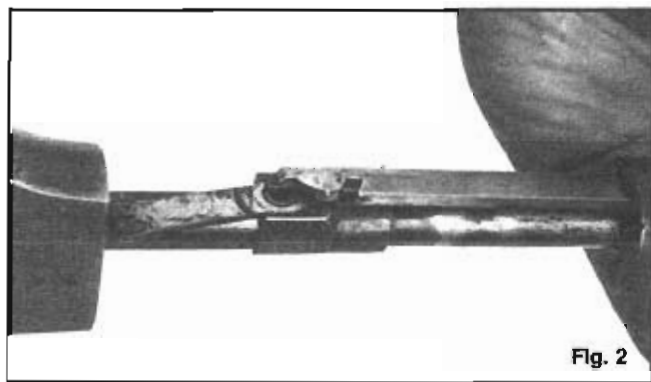

Fig. 2
With the trigger guard facing up, slowly move the forearm forward to close the breechblock. Note the position and function of the forearm's action bar (16), the action lock (17) under it and the action lock seat (18) that is a sleeve, fine-threaded over the outer magazine tube. (Fig. 2)